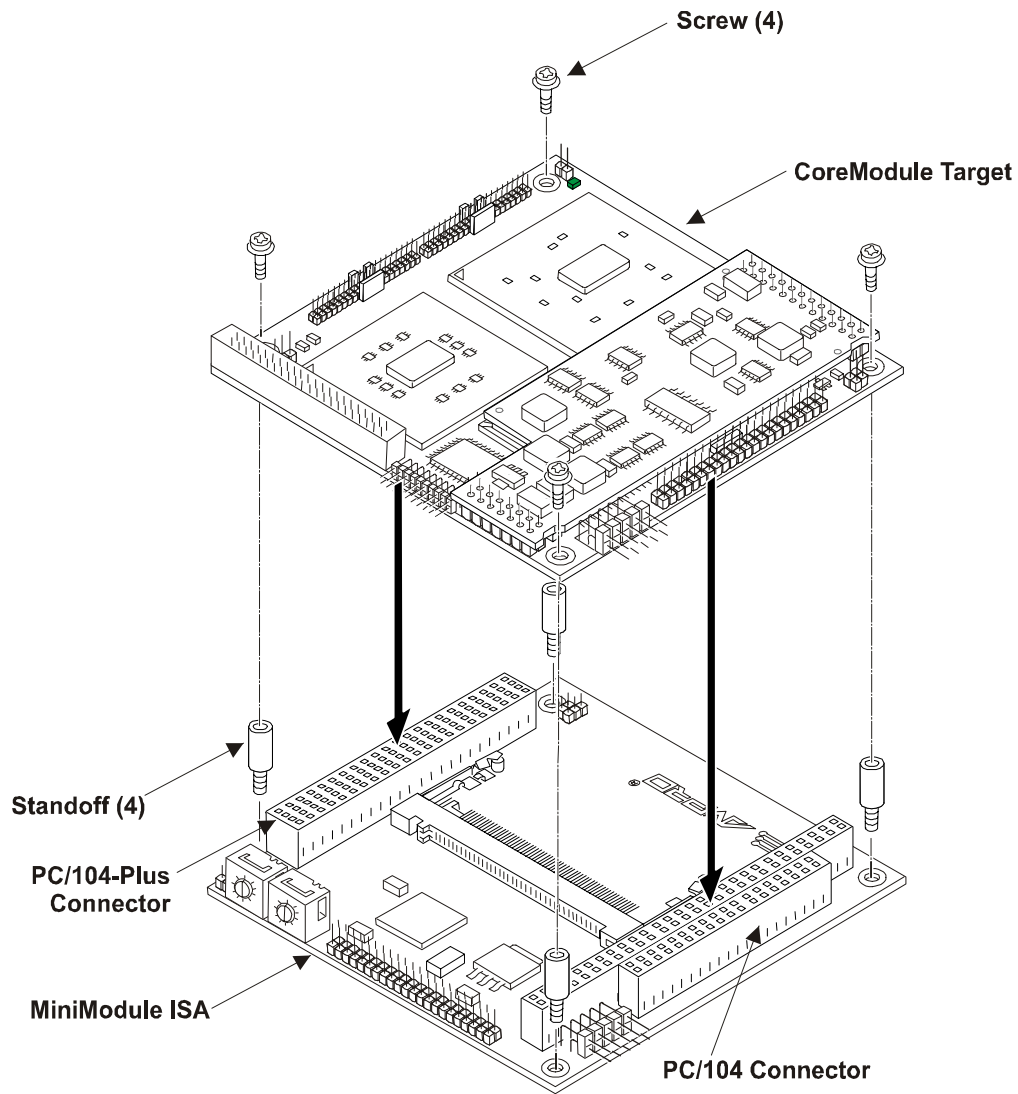

Figure 2-4. Installing a CoreModule Target on a MiniModule ISA
10. Install the spacers on the target board.	<ul style="list-style-type: none"> Install the threaded standoffs onto the target board at the four corners of the MiniModule board. See Figures 2-4 and 2-5.
13. Position the MiniModule ISA onto the target system.	<ul style="list-style-type: none"> The MiniModule ISA must be positioned over (or under) the PCI-104 connector on the target system. See Figures 2-4 to 2-5. <p>Typically the MiniModule ISA board is installed on the top side of the target system, but in some cases, it may be installed underneath or below the target system.</p>